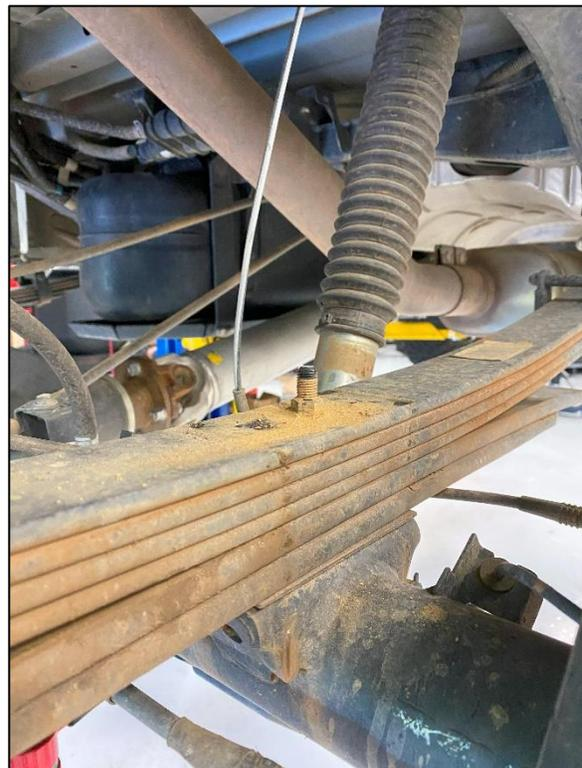

Figure 3
6. If you have a Bump Stop installed on the Leaf Springs, remove the Bump Stop. An OE Position Bump Stop must be used with this kit. *Figure 3.*